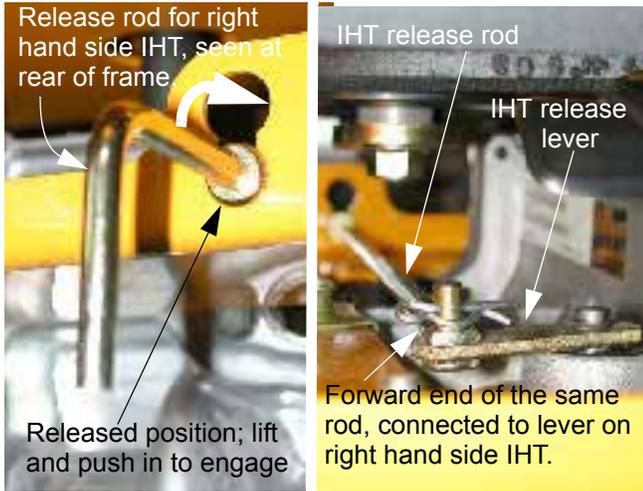

Figure 6.5
- 6.5. Check the IHT (Integrated Hydrostatic transmission) release the levers to be sure the transmissions are fully engaged. See Figure 6.5.